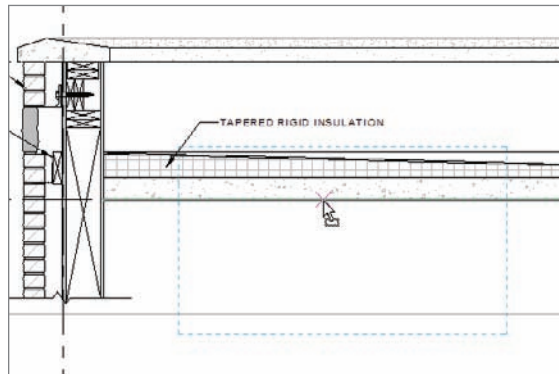

FIGURE 12.75 Picking a point along the bottom of the roof to place the group
4. Pick a point along the bottom of the roof similar to what is shown in Figure 12.75.